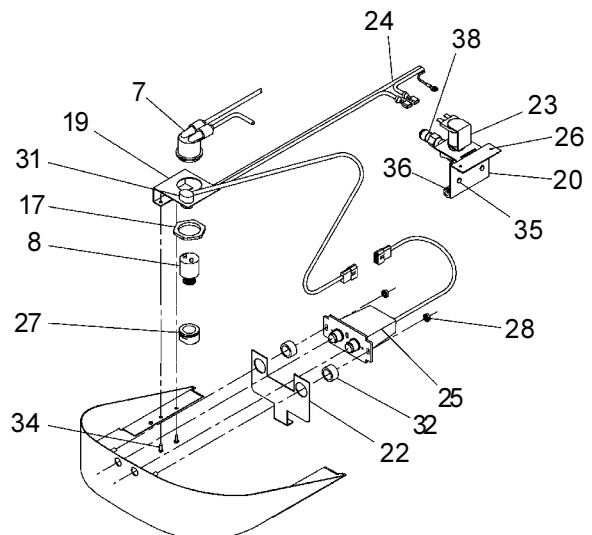

FIG. 5
8. Install fountains. Remove bottom cover plates on underside of fountains and save the screws. Mount the fountains to the upper panel and the wall frame with (4) 5/16" x 3/4" (19mm) long bolts and nuts (provided). Tighten securely.
11. Connect power cord of sensor to solenoid valve by running it through the back panel and connecting it as shown in Fig. 5. Connectors may be connected to either terminal on solenoid valve. Attach ground wire to solenoid valve bracket with green ground screw.
15. Check stream height from bubbler. Stream height is factory set at 35 PSI. If supply pressure varies greatly from this, remove item 12 (bottom cover plate) or item 30 (push button) and adjust the screw on the regulator (item 8). Clockwise adjustment will raise stream height and counter-clockwise will lower stream height. For best adjustment stream height should hit basin approximately 6-1/2" (165mm) from the bubbler.
16. Mount lower panel. Loosen the (2) #10-24 x 5/8" (16mm) screws at frame bottom lip. Slide upper tongue of lower panel under lower edge of already installed upper panel. Tighten previously loosened screws securely.